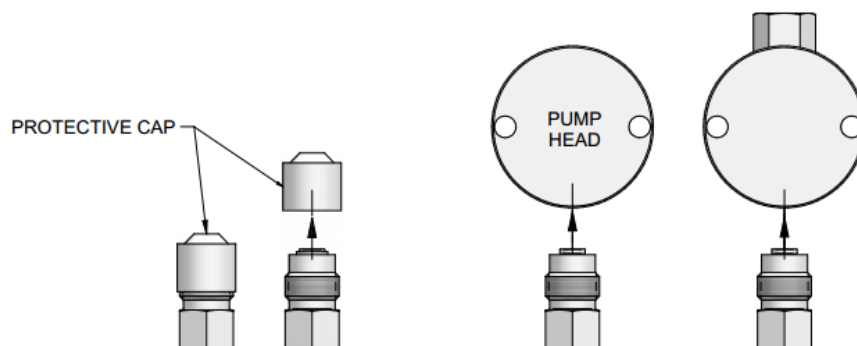

Figure 9, New Check Valves from package and proper orientation.
If this procedure does not return the pump to proper performance, the check valves should be replaced. An example of new check valves from their package can be seen in *Figure 9* below.
3. Hold one new check valve assembly as shown in *Figure 9* and unscrew the protective cap. With the check valve assembly maintained in the above position, thread it into the proper pump head port until it is snug. Install the other check valve assembly similarly.